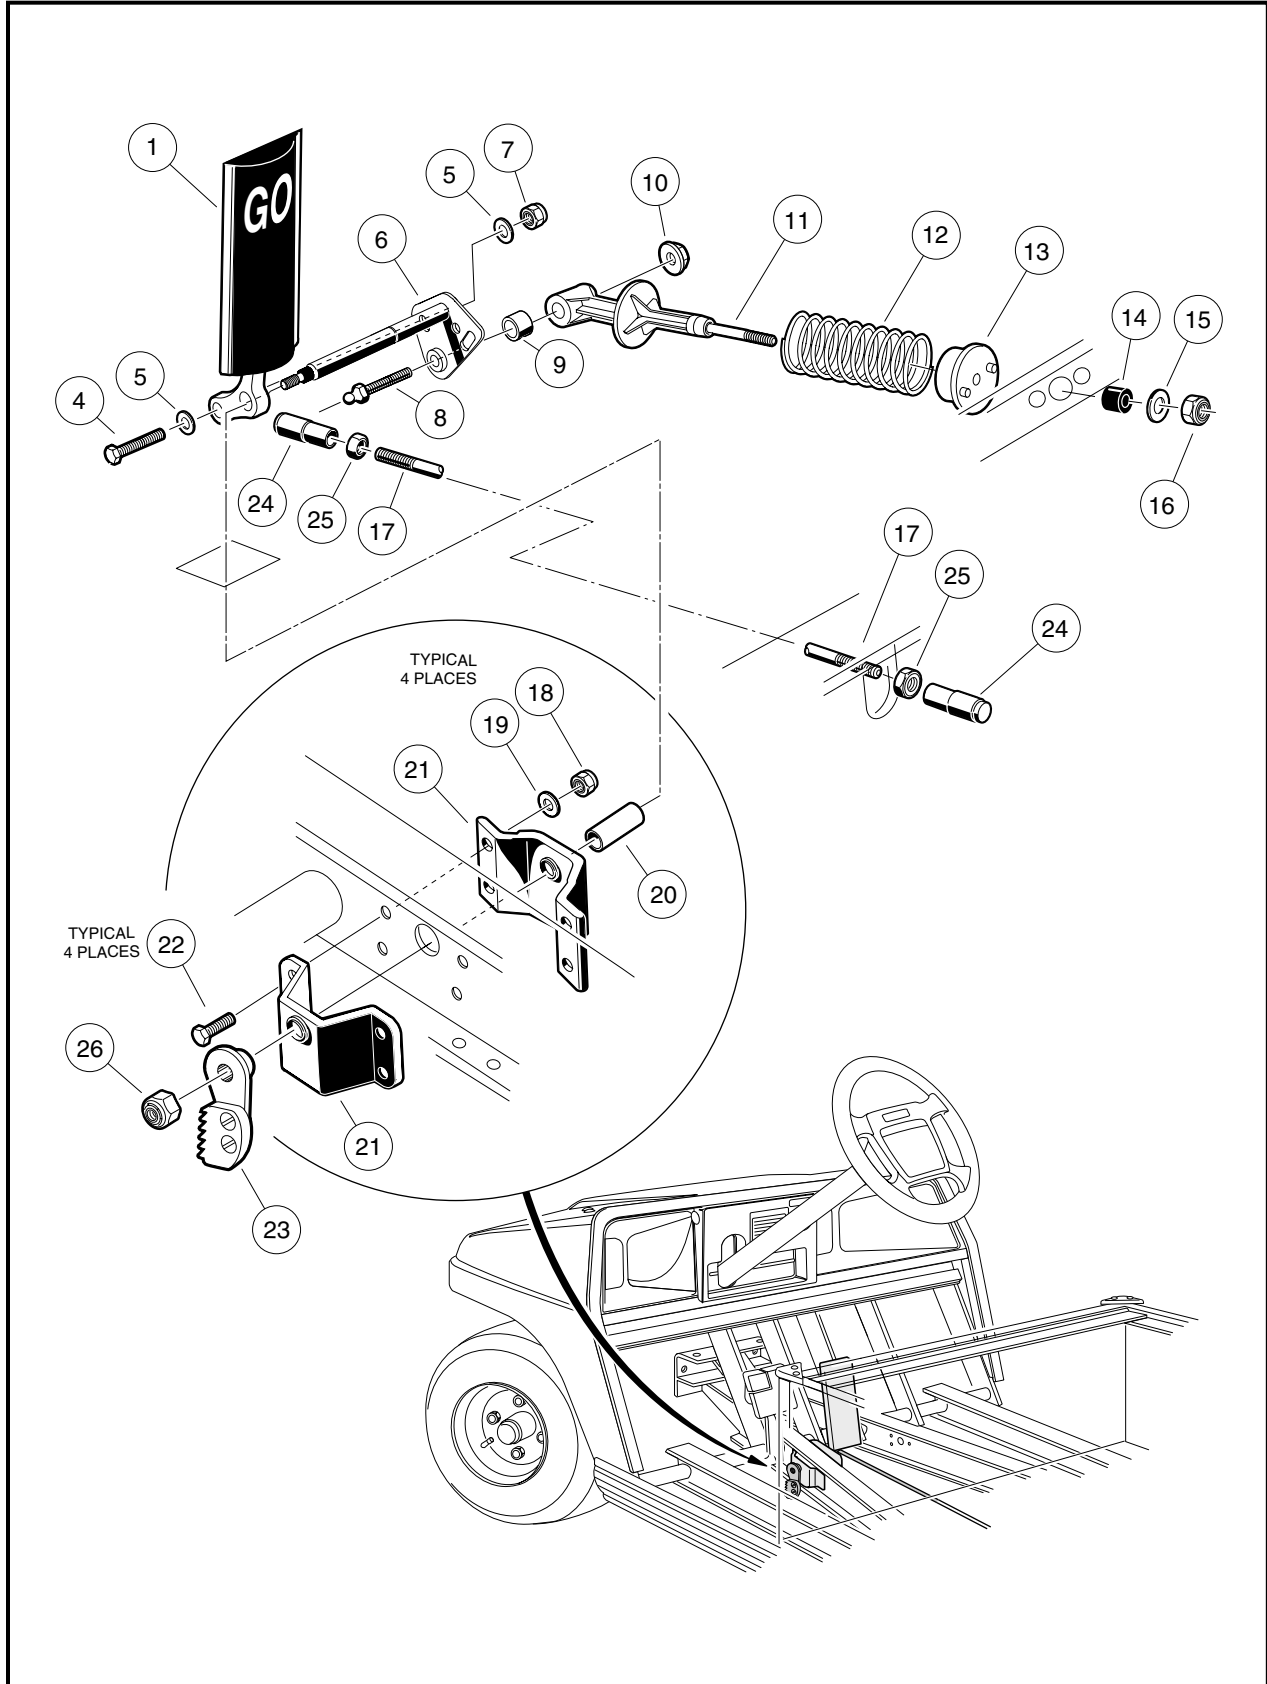

Figure 5-6 Accelerator Pedal – Electric Multi-Step Potentiometer Vehicles and all Gasoline Vehicles
3. Disconnect the accelerator rod assembly (17, 25, and 24) (**Figure 5-6, Page 5-8**) at the front and rear ball studs and remove it from the vehicle.
4. Using a 9/16-inch socket and 9/16-inch wrench, remove the nut (7), two washers (5), and bolt (4) securing the accelerator pedal (1) to the pivot rod (6).
5. Remove the nut (10) and ball stud (8) from the accelerator pivot rod assembly (6).
6. Slide the spring retainer (11) off of the accelerator pivot rod.
7. Inspect the pivot support bearing (9) for wear and replace if necessary.
8. Use a marker to mark the position of the park brake ratchet (23) on the accelerator pivot rod (6). **See following NOTE.**
9. Remove the lock nut (26) from the accelerator pivot rod.
10. Depress the brake pedal slightly and slide the park brake ratchet (23) toward the end of the accelerator pivot rod. Rotate the ratchet and remove it from the pivot rod.
11. Remove the pivot rod (6) and spacer (20) from the accelerator pivot rod supports (21) (**Figure 5-6, Page 5-8**).
12. Inspect the accelerator pivot rod supports (21) for wear and damage and replace if necessary. If the pivot rod supports do not require replacement, loosen, but do not remove, the four bolts (22) and lock nuts (18) to make installation of the pivot rod easier.
13. Remove the accelerator pedal (1) from the vehicle.
1. If the accelerator pivot rod supports were replaced, position the supports (21) on the vehicle frame and install the four bolts (22), flat washers (19), and lock nuts (18). Finger-tighten nuts at this time (**Figure 5-6, Page 5-8**).
2. Insert the lower end of the accelerator pedal (1) through the floorboard and install the accelerator pivot rod (6) through the uppermost hole in the pedal.
3. Install the plastic spacer (20) on the pivot rod (6).
5. Tighten the four bolts (22) attaching the pivot rod supports to the frame to 75 in-lb (8.5 N·m).
6. Install the bolt (4), two washers (5), and a new lock nut (7) through the lower hole in the pedal and through the pivot rod. Finger-tighten nut at this time.
7. Install the ball stud (8) through the pivot rod. Install the spring retainer (11) onto the ball stud. Secure these parts with the nut (10) (**Figure 5-6, Page 5-8**). Tighten the nut to 50 in-lb (5.7 N·m).
11. Install the nylon lock nut (26) on the pivot rod and tighten the nut to 18 ft-lb (24 N·m) (**Figure 5-6, Page 5-8**).
12. Install the accelerator rod assembly (17, 25, and 24) (**Figure 5-6, Page 5-8**).